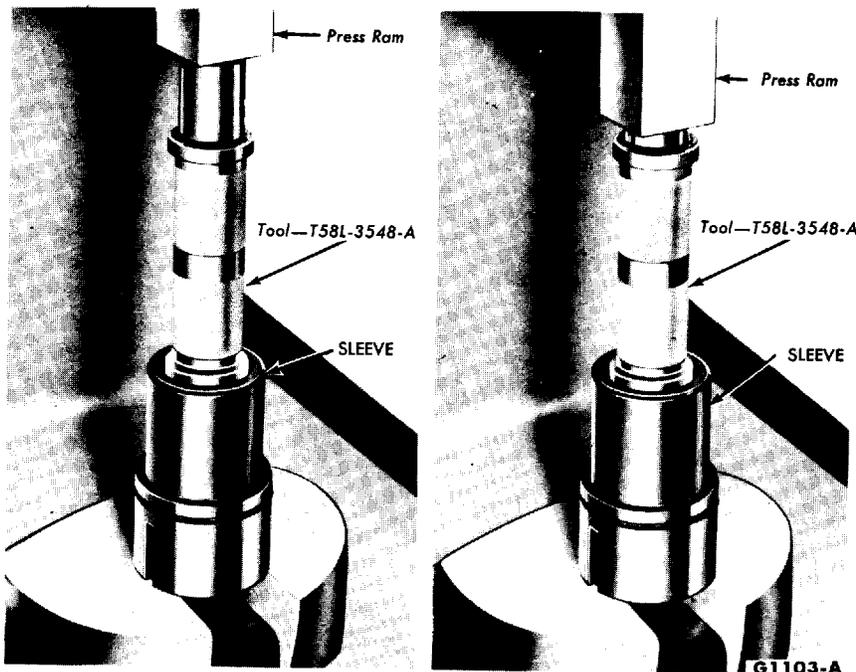

FIG. 17—Sleeve Bearing and Seal Installation
16. Install the sleeve bearing in the sleeve, using the tool shown in Fig. 17. **The bearing must be pressed in so that there is 0.095-0.105 inch between the upper surface of the bearing and the seal seat surface of the sleeve.** To install the seal, use the tool shown in Fig. 17. Install the snap ring and check bearing rotation.